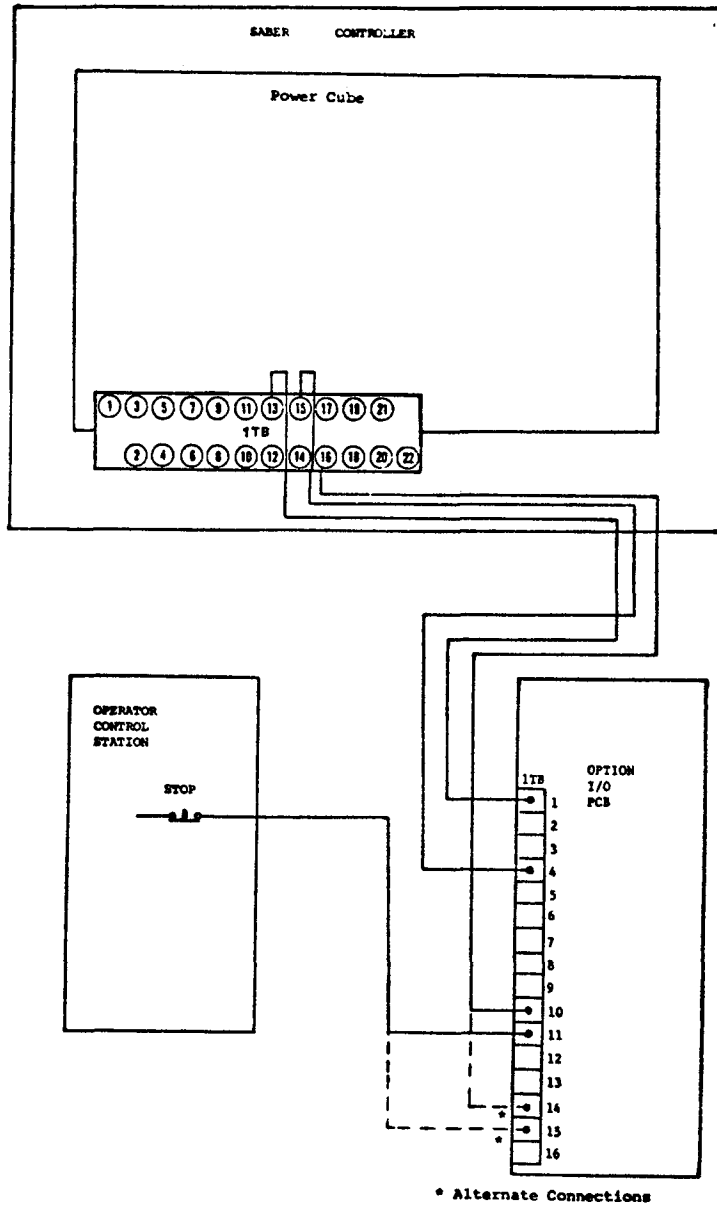

Figure 2. Interconnection Diagram
See Figure 2. Remove wire 25B from Controller-to-OCS wiring (1TB (16) to STOP push button).
Using 18 gauge wire, make connections as listed below and shown in Figure 2.